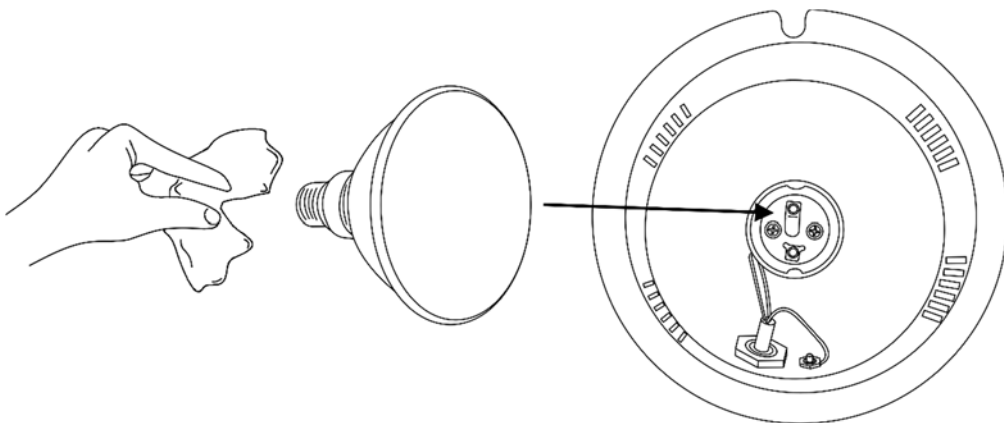

Fig. 05
- 04) Insert the lamp into the lamp holder (fig. 05).